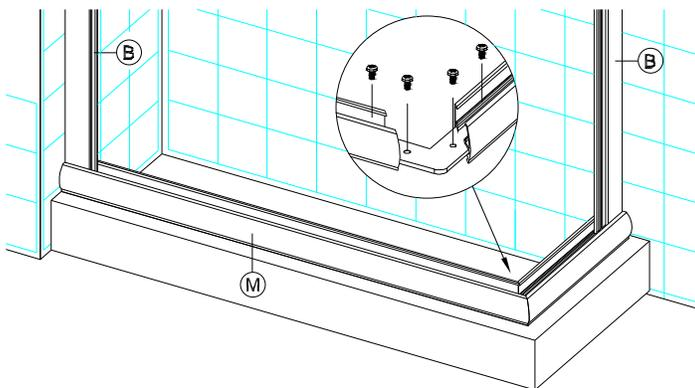

figure 3
Position Wall Jamb (B) onto end of base Sill and up against the shower walls as shown in figure 3. Plumb the Wall Jamb, then pencil mark the installation hole locations on the shower walls (3 per Jamb). Remove Wall Jamb. Using a 3/16" drill bit, (designed to drill through material you are working with), drill 1" deep installation holes in the locations previously marked. Insert Plastic Screw Anchors (I) into holes. Reposition Jamb as before and secure Jamb to walls using six (6) 1-1/4" Installation Screws (H).